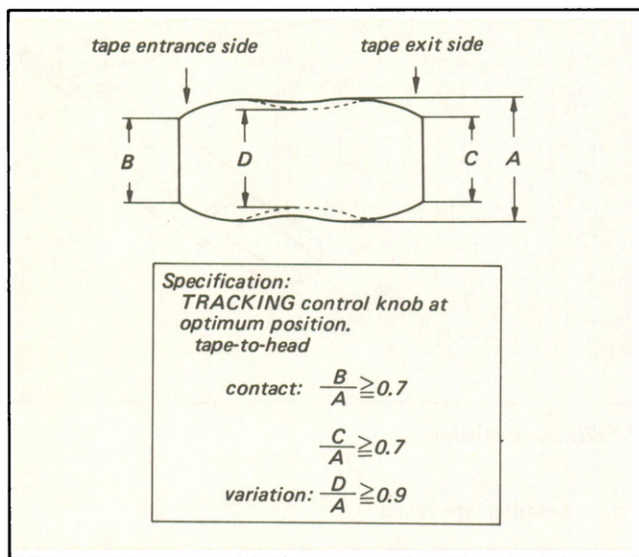
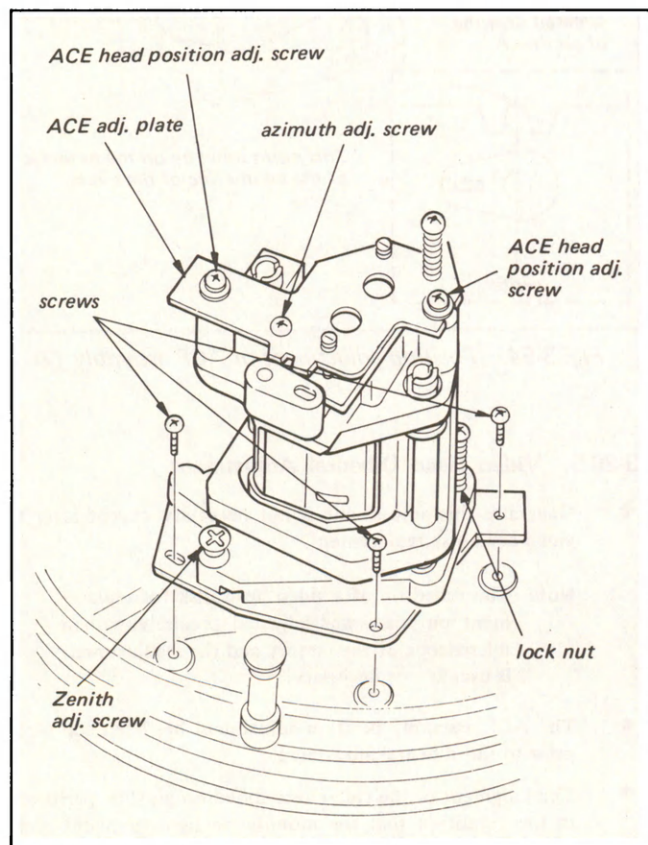

Fig. 3-47. Adjustment of tape path
Fig. 3-50. Removal of ACE assembly
5. Confirm that the fluctuation and the tape-to-head contact satisfy the specification shown in Fig. 3-47. If they do not, perform Step 6 for the adjustment.
1. The ACE assembly can be removed if the three screws shown in Fig. 3-50 are removed.
4. Play back the 1 MHz segment of the alignment tape (KR5-1S). Confirm that the RF wave output (see Fig. 3-47) satisfies the specification and there is no curl on the tape edge contacting the tape guide. Confirm that the RF waveform varied from the flat state when the tape guides (E) and (F) are raised and adjust the heights of the tape guides so that the waveform output becomes flat.
5. When the waveform does not vary if the tape guides (E) and (F) are raised in Step 4 or when the waveform does not become flat if the tape guides are lowered, perform the adjustment, following the procedure below.
- (i) Loosen the lock nut shown in Fig. 3-50.
3. Adjust the azimuth adjustment screw on the audio head for a maximum VTVM reading. (See Fig. 3-50.)